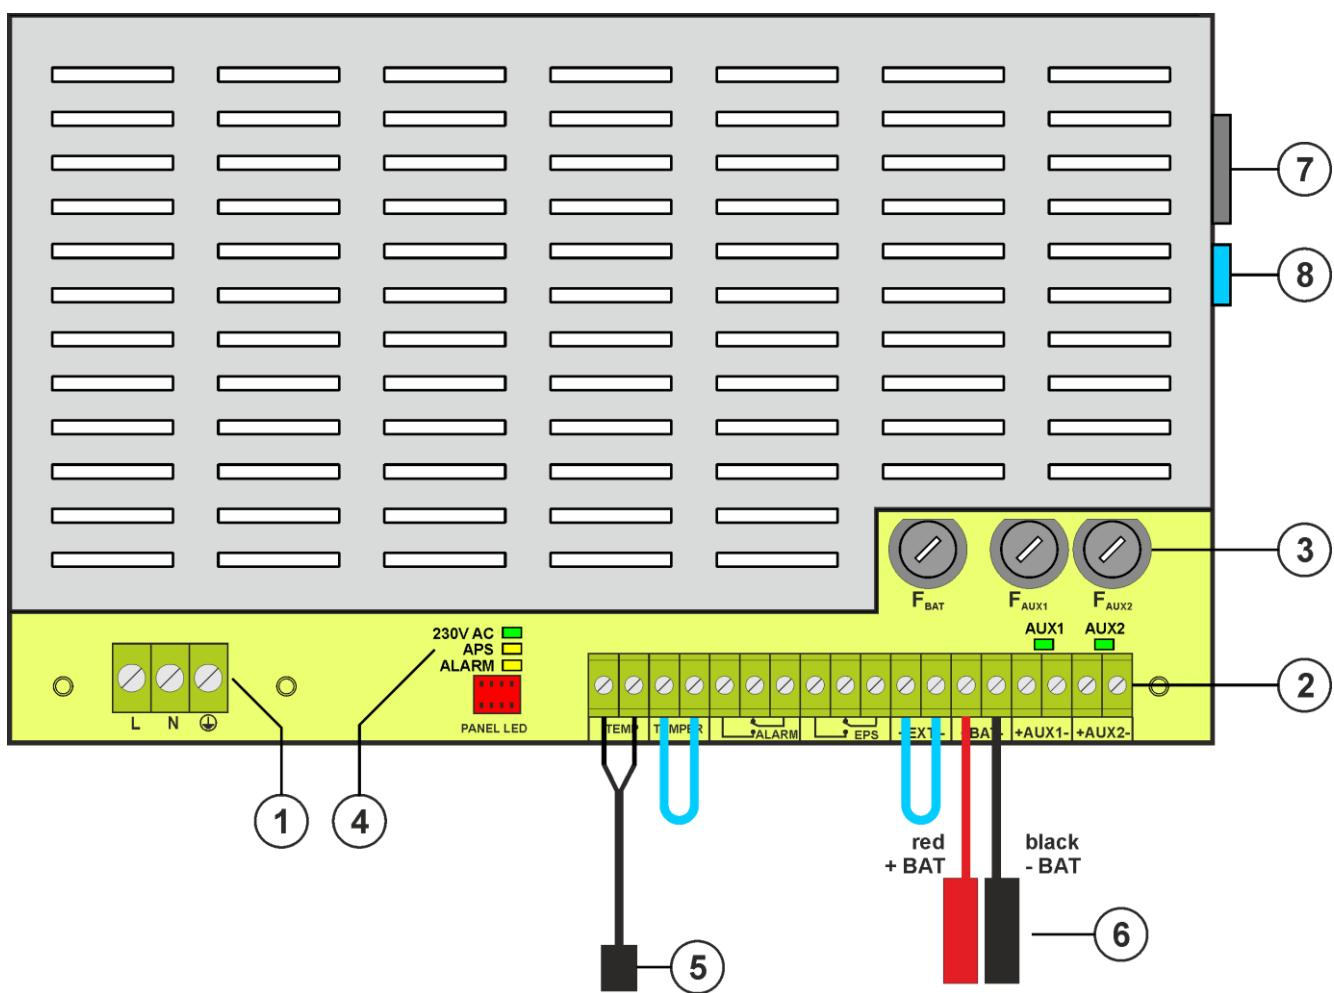

Fig. 2. View of power supply module based on EN54C-2A7LCD.
Table 1. Elements of PSU (Fig. 2).
①	230 V supply connector with a terminal for connection of a protective conductor
②	<p>Terminals:</p> <p>TEMP – input of the battery temperature sensor</p> <p>TAMPER – input of the microswitch tamper</p> <p>Closed input = no indication Open input = alarm</p> <p>ALARM – technical output of collective failure of the PSU - relay type</p> <p>EPS – technical output of AC power failure indication</p> <p>open = AC power failure closed = AC power - O.K.</p> <p>EXTi – external failure input</p> <p>closed input = no indication open input = alarm</p> <p>+BAT- – terminals for connecting the battery</p> <p>+AUX1- – AUX1 power output ( - AUX=GND)</p> <p>+AUX2- – AUX2 power output ( - AUX=GND)</p> <p>CAUTION! In Fig. 2 the set of contacts shows a potential-free status of the relay, which corresponds to power supply failure.</p>
1	PSU (tab. 1, Fig. 2)